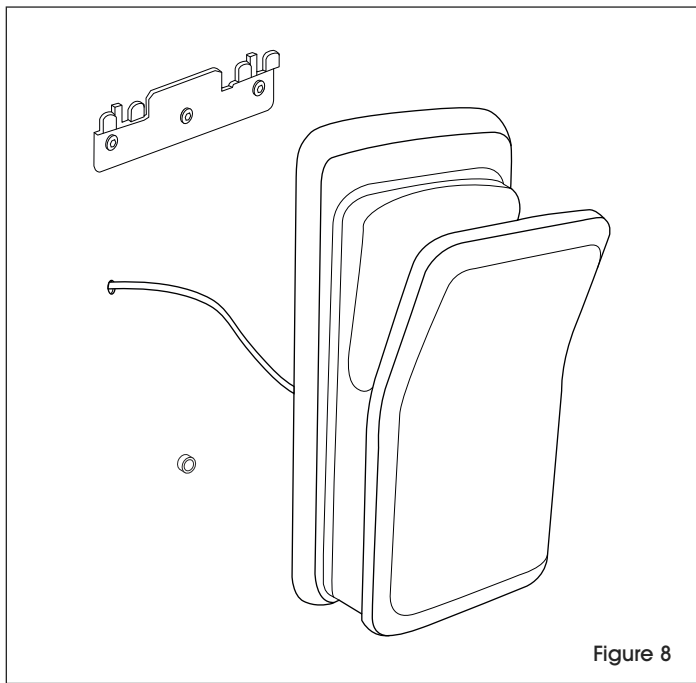

Figure 8
12. Place hand dryer on wall bracket. (See Figure 8)